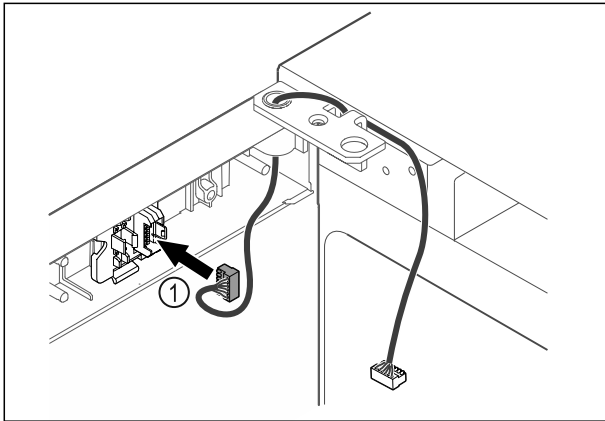

Fig. 33
- Put the plug Fig. 33 (1) in the plug holder.